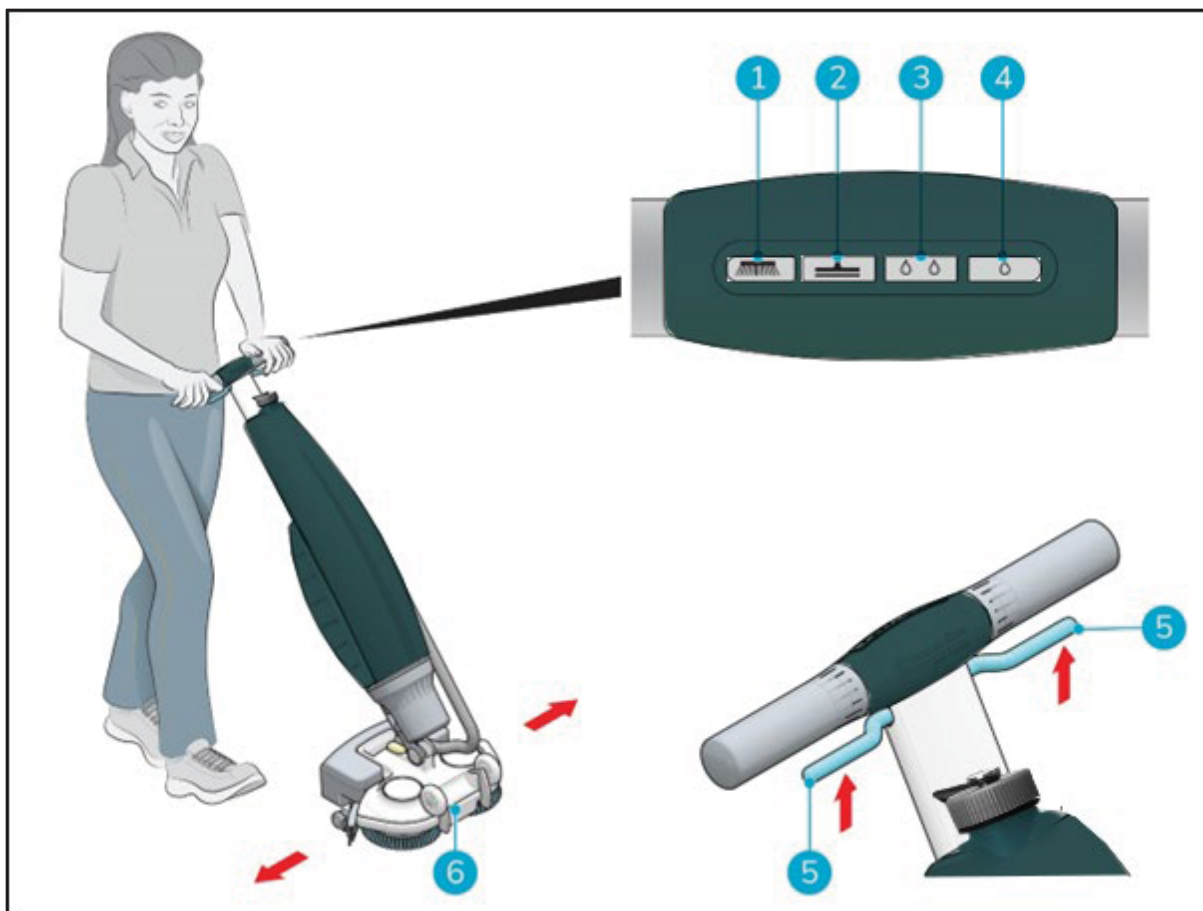

Figure 17
5. Stand behind the i-mop® Lite. Choose your cleaning mode via the buttons on the control panel (Figure 17, pos 1 to 4). You can select the options independently or combined.
7. Squeeze the trigger on the handle (Figure 17, pos 5). This will also start the i-mop® Lite
10. Steer by gently turning the handle left or right to move the scrub deck (Figure 17, pos 6).
11. Releasing the trigger (Figure 17, pos 5) will immediately stop the i-mop® Lite. The vacuum motor will stop after 3 seconds.